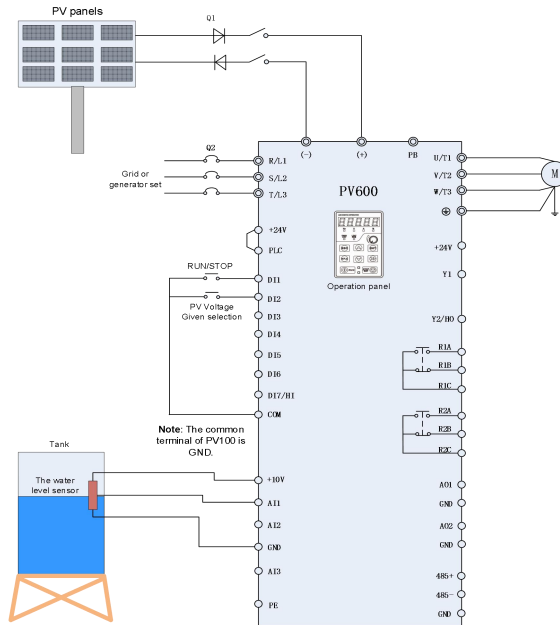

Figure 2-3 Grid or Generator Power Supply Wiring Diagram 1
Wiring drawings of below inverters shown as Figure 2-3: PV600 series 3 phase 690V inverters with power lower than 37kw.
1. Wirings as Figure 2-3 system wiring drawings according to inverters power, check and confirm the connections to be correct.